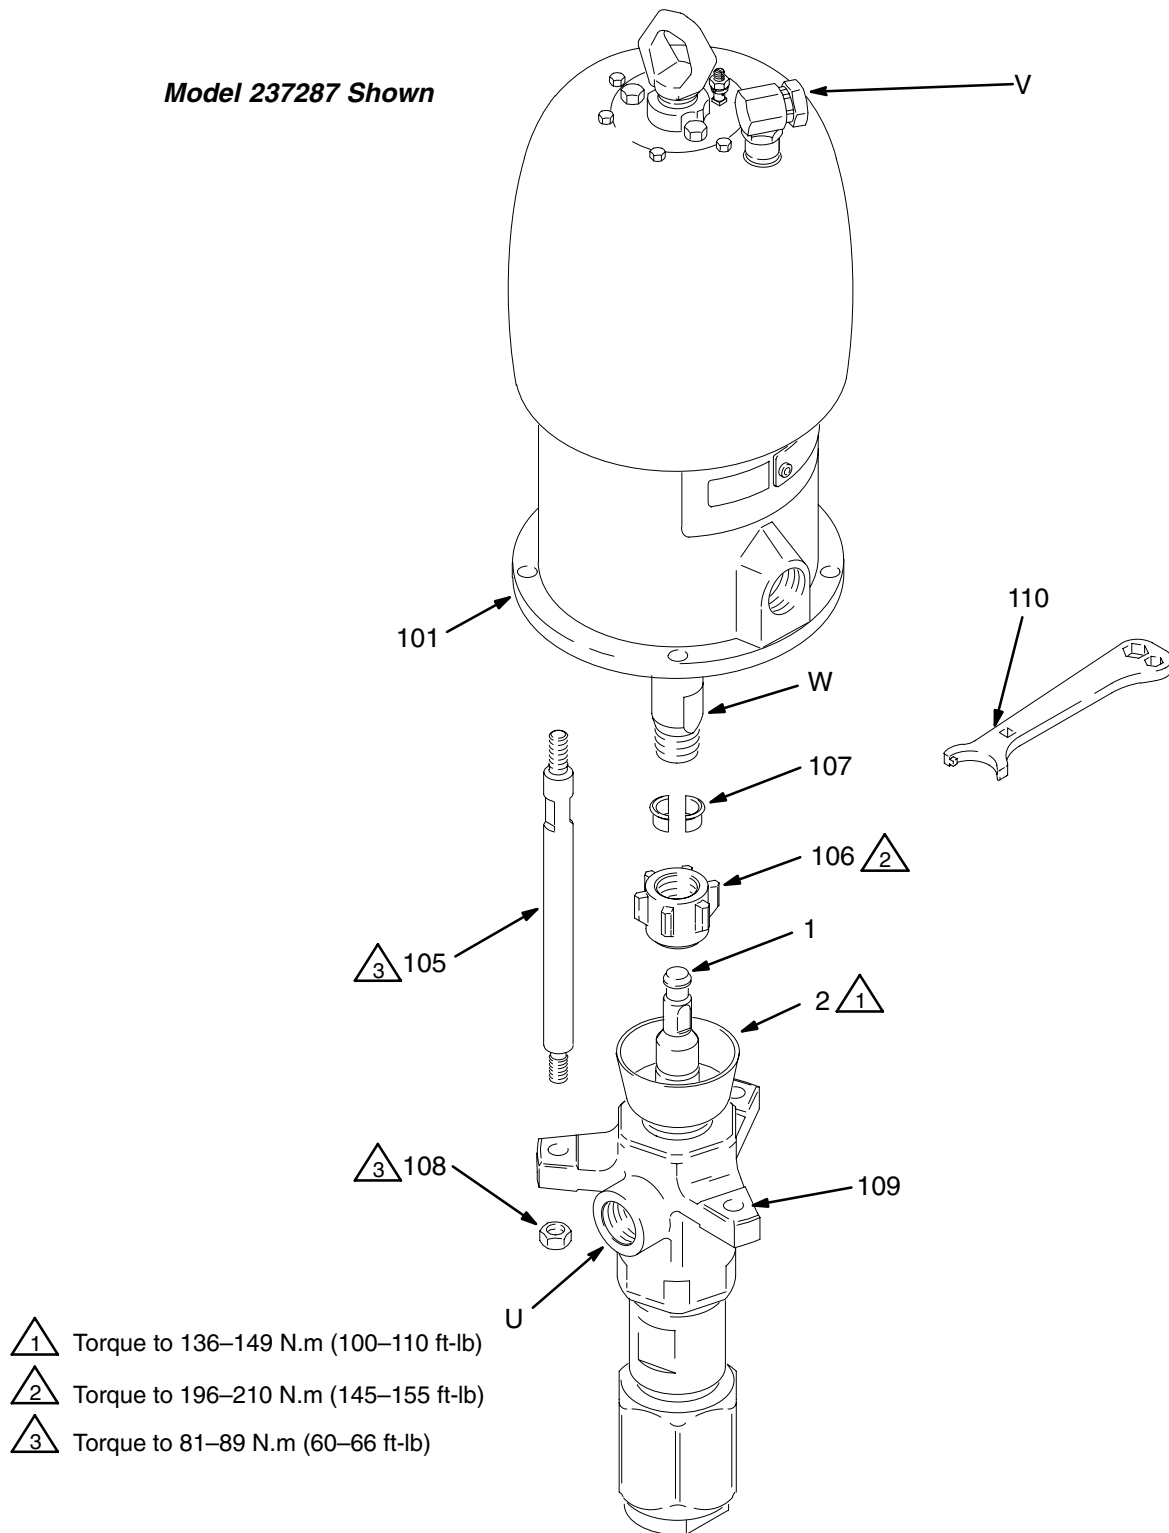

Fig. 6
5. Using an adjustable wrench (or hammer and punch), unscrew the coupling nut (106) from the motor shaft (W). Do not lose or drop the coupling collars (107). See Fig. 6.
6. Hold the tie rod flats with a wrench to keep the rods from turning. Unscrew the nuts (108) from the tie rods (105). Carefully remove the displacement pump (109) from the motor (101).
1. Make sure the coupling nut (106) and the coupling collars (107) are in place on the displacement rod (1). See Fig. 6.
2. Use at least two people to hold the displacement pump while another reconnects it to the motor (see the **CAUTION** at left). Orient the pump's fluid outlet (U) to the air inlet (V) as was noted in step 4 under **Disconnecting the Displacement Pump**. Position the displacement pump (109) on the tie rods (105).
3. Screw the nuts (108) onto the tie rods (105) and torque to 81–89 N.m (60–66 ft-lb).
4. Screw the coupling nut onto the motor shaft (W) loosely. Hold the motor shaft flats with a wrench to keep it from turning. Use an adjustable wrench to tighten the coupling nut. Torque to 196–210 N.m (145–155 ft-lb).
5. Reconnect all hoses. Reconnect the ground wire if it was disconnected. Fill the packing nut (2) 1/3 full of Graco Throat Seal Liquid or compatible solvent.